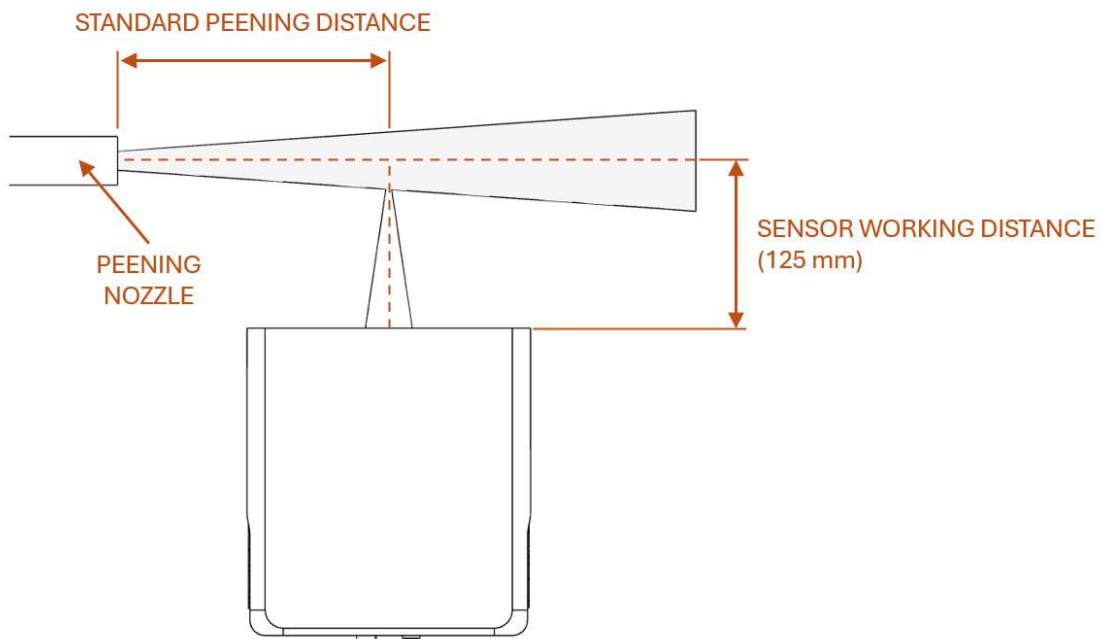

FIGURE 36 - SENSOR HEAD WORKING DISTANCE
Step 14. Bring the peening gun near the sensor head as shown in **Figure 36**. The sensor measurement point is normally set to your standard process peening distance. The distance between the front of the sensor head and the nozzle axis should be adjusted to 125 mm (from the sensor's window to the center of the peening jet).